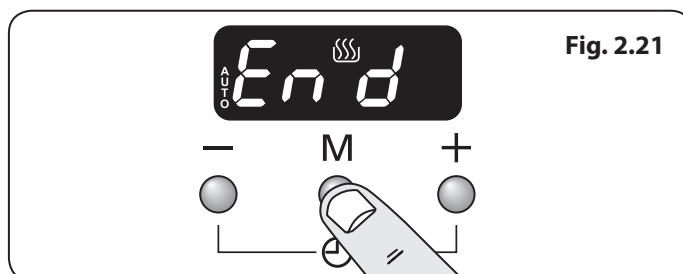

Fig. 2.21
1. Press the mode [M] button 3 times, until the display flashes (End) **(Fig. 2.21)**.